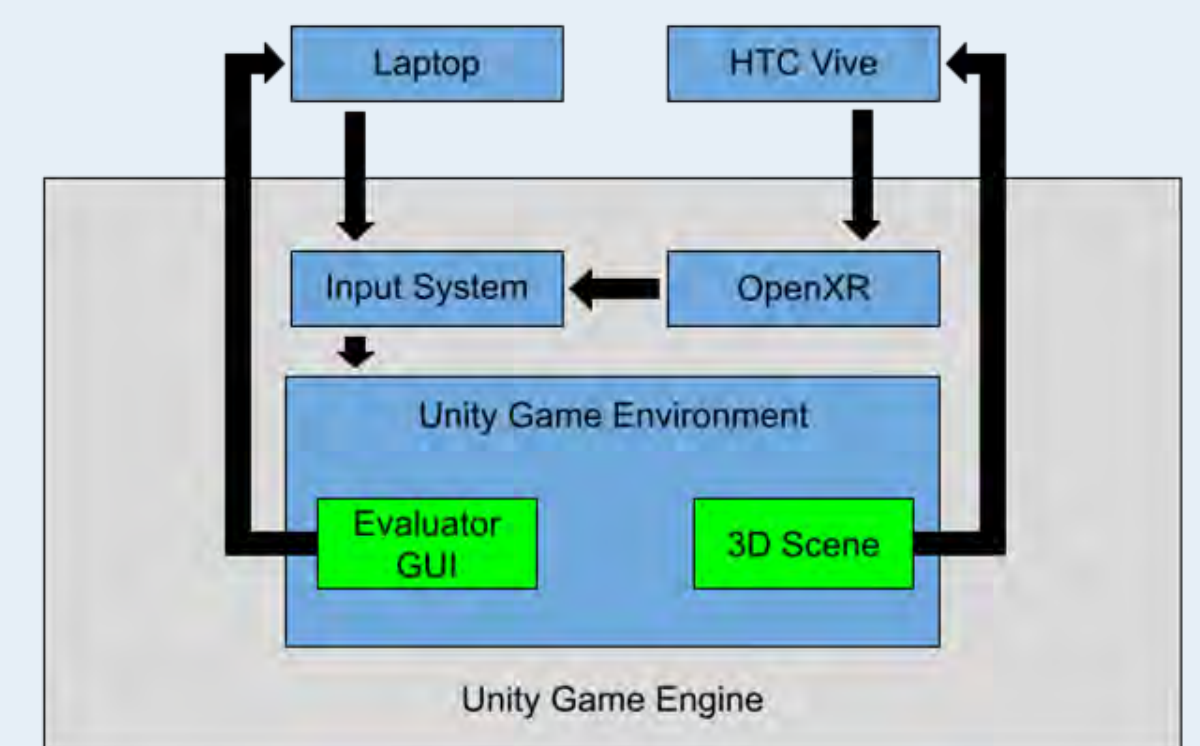

Fig. 1: The functional block diagram
- **Set Up Development Tools:** Researched, selected, ordered, and received an appropriate laptop that met established hardware requirements from project proposal. Learned and set up key development tools--Unity and Blender--and set them up on the physical environment (**Fig. 1**).